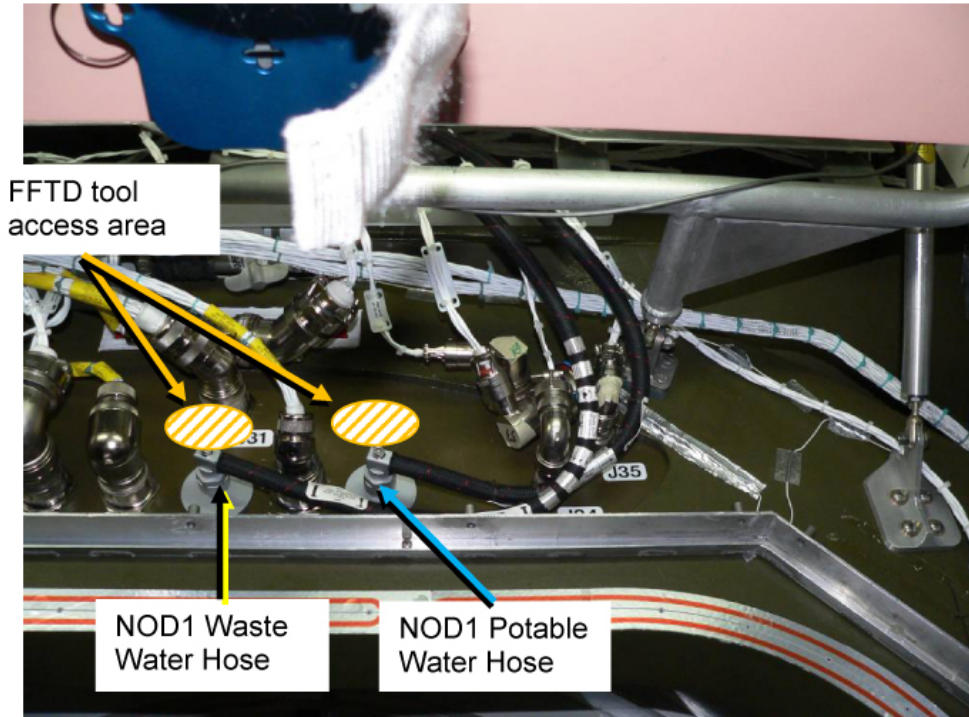

Figure 22. Routing of Fluid Hoses.
- NOD1OP2 9.3 Route 90-degree Gamah connector of NOD1 Potable Water Hose from NOD1P4 to NOD1OP2 Bulkhead connector J33 - Fuel Cell H2O. Refer to Figure 22 for recommended routing.